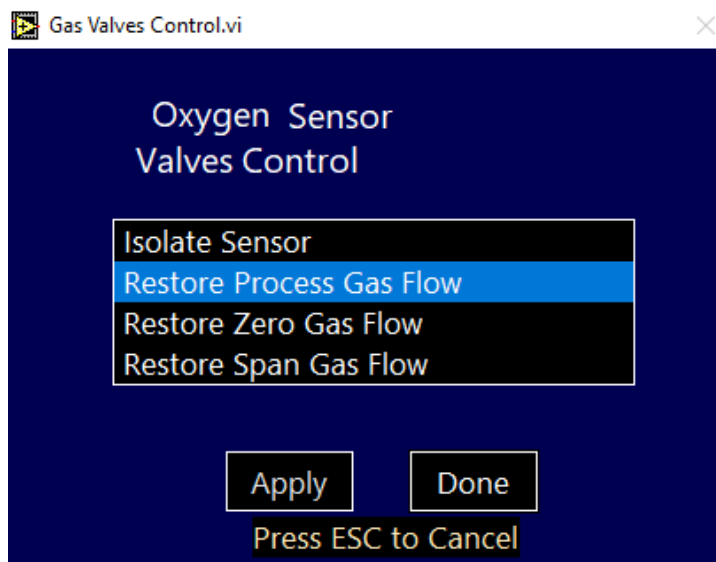

Figure 18: Restore Process Gas Flow Screen
- h. Restore process gas through the O₂ sensor. To do this, press **Menu**, then select **Oxygen > Controls > Restore Process gas flow (Figure 18)**. Allow the analyzer to clean up and dry down.